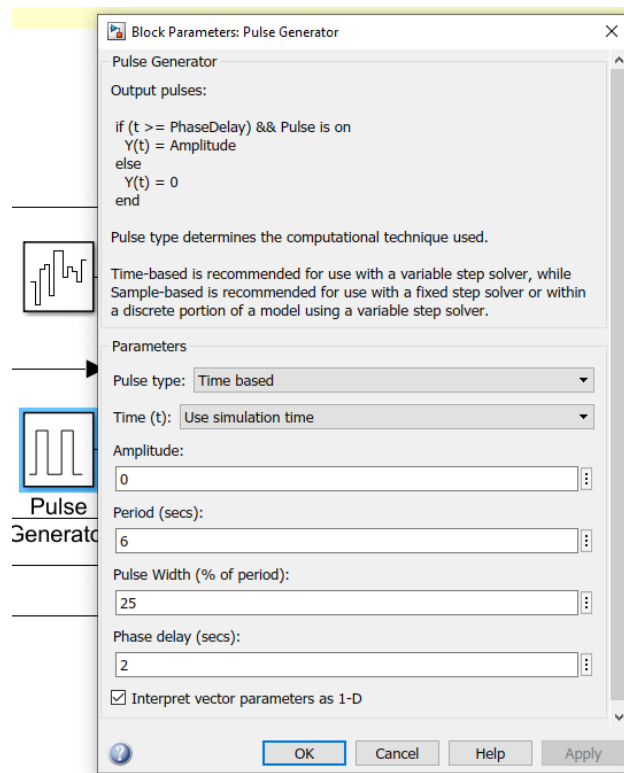

Fig. 8: A pulse generator to test the ability for a system to respond to disturbances. Only the amplitude needs to be adjusted.
Step 2. Set the magnitude of the disturbance pulse generator (Fig. 8) to 50. How does the system react to the disturbance?